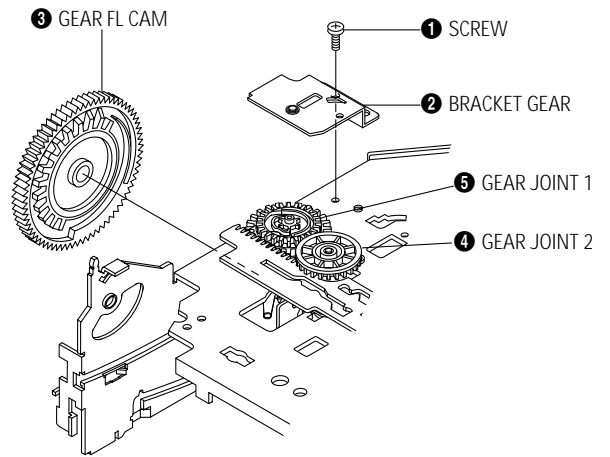

Fig. 4-13 Bracket Gear, Gear FL Cam, Gear Joint 1, 2 Removal
- 1) Release the Hook [A] in the direction of arrow and, remove the Holder Worm ❶.
- 2) Remove the Gear Worm ❷.
- 3) Remove the Gear Worm Wheel ❸. (After removing the Gear FL Cam as shown Fig. 4-13)
**Note :** Secure the Hook [A] after installing the Holder Worm ❶.